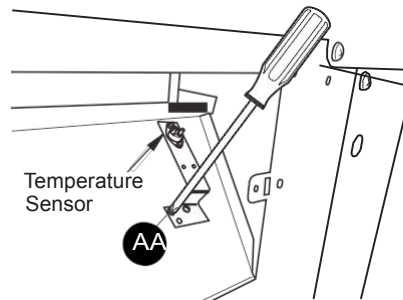

Figure 9 - Installing Temperature Sensor
9. Attach temperature sensor to the back of the firebox with 2) M4.2X8 screws (AA) (see Figure 9).